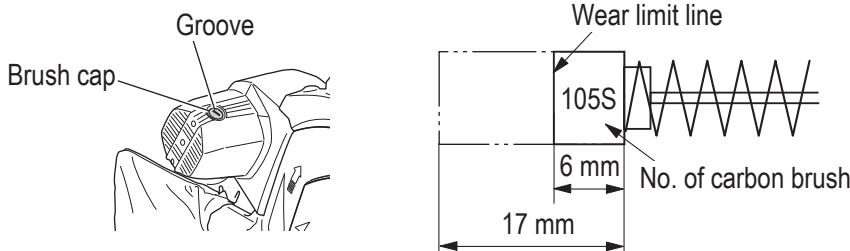

Fig. 36
3. Inspecting the carbon brushes (Fig. 36)
4. Replacing a carbon brushes (Fig. 36)